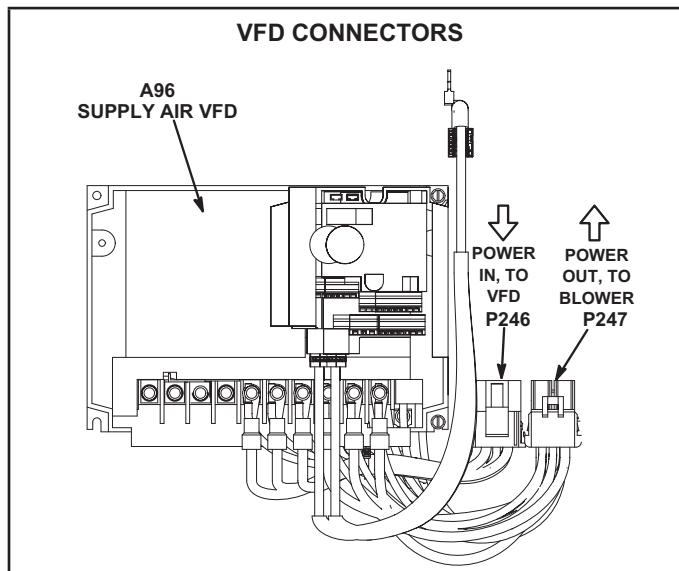

FIGURE 28
- 2 - Locate P246 and P247 connectors near the VFD. See FIGURE 28.